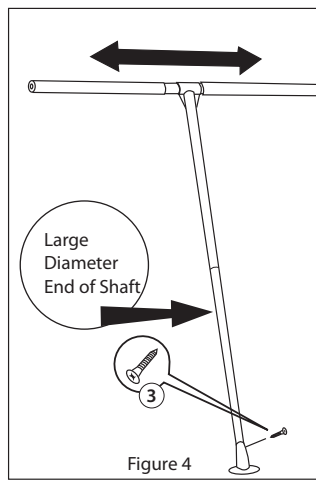

Figure 4
6. Attach handle using provided screw (3), as shown in Figure 4.